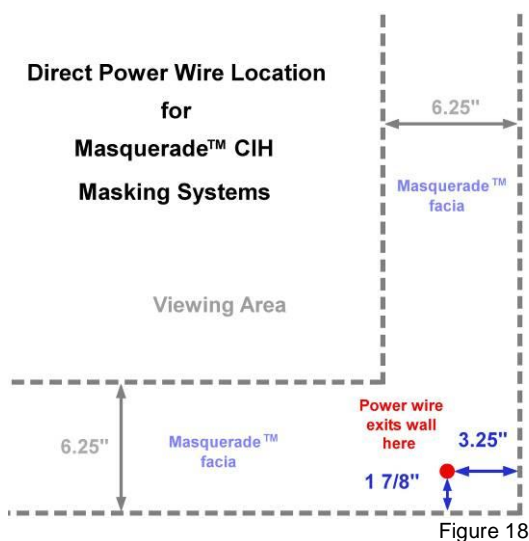
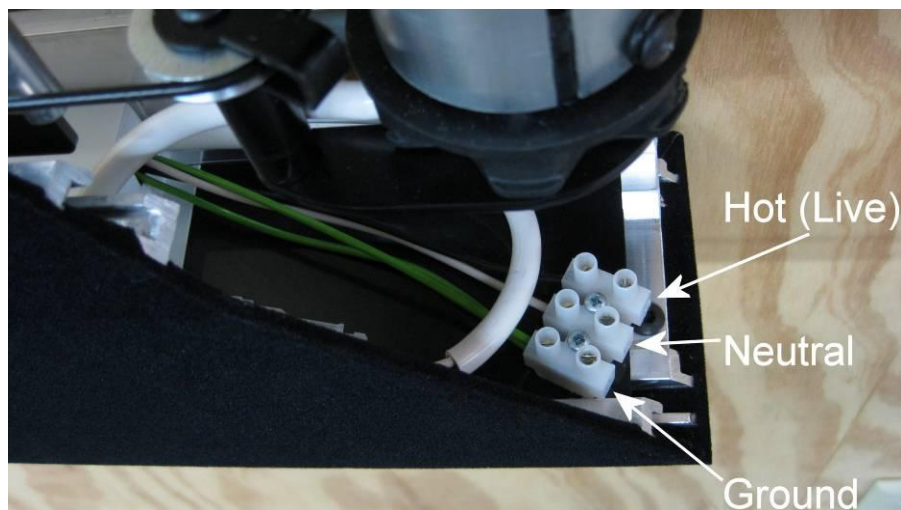

Figure 19
Figure 20
Step 19 (alternate) - If you ordered your Masquerade without a factory-installed power cord, you will need to attach your power source to the terminal block inside the Masquerade structure. First you must determine EXACTLY where the bottom-right-hand corner of your Masquerade CIH will be located once mounted on your wall. Then use the dimensions in Figure 18 to determine where your power wire needs to exit your wall. Bring your power wire through the hole in the back of the substructure (Figure 19) and connect to terminal block (Figure 20).